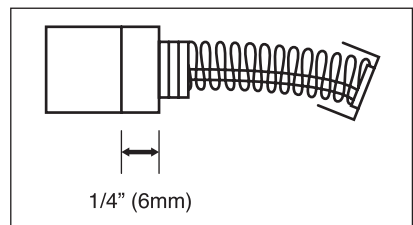

Fig.9
See fig.9. To replace: simply remove the brush caps (47) and withdraw the old brushes (46). Replace with new brushes (always replace as a pair) ensuring that they align properly and slide freely. Then replace the brush caps. See fig.10.